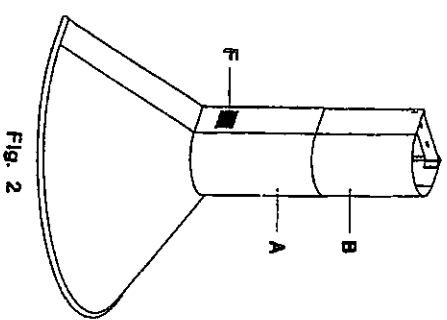

Fig. 2
- Mark the wall at the location of support E (Figure2) according to the heights and specifications shown on the attached template.
- Place tube A (Figure2) with the extendible part B hanging on the inside, making sure that billet D (Figure2) is correctly attached to support E (Figure2).